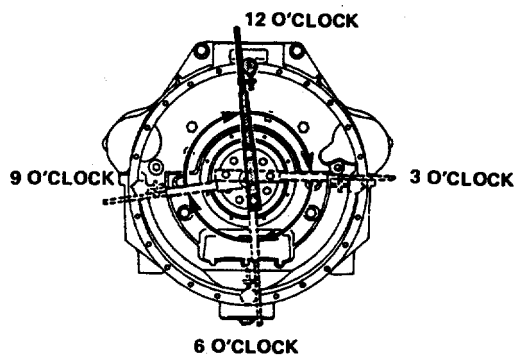

FIGURE 3-32b. Flywheel Housing End Clearance TIR.
- (5) Record readings at 3, 6 and 9 o'clock positions. Return to 12 o'clock position, ensure dial points to "0" (FIG. 3-32b).
- (6) Compute TIR as shown in the example below. Verify TIR is within specification above. If not within specification, check for nicks, burrs, or foreign material between the housing and block. If none exist and the alignment is still out of specification, the block or housing is not machined correctly.